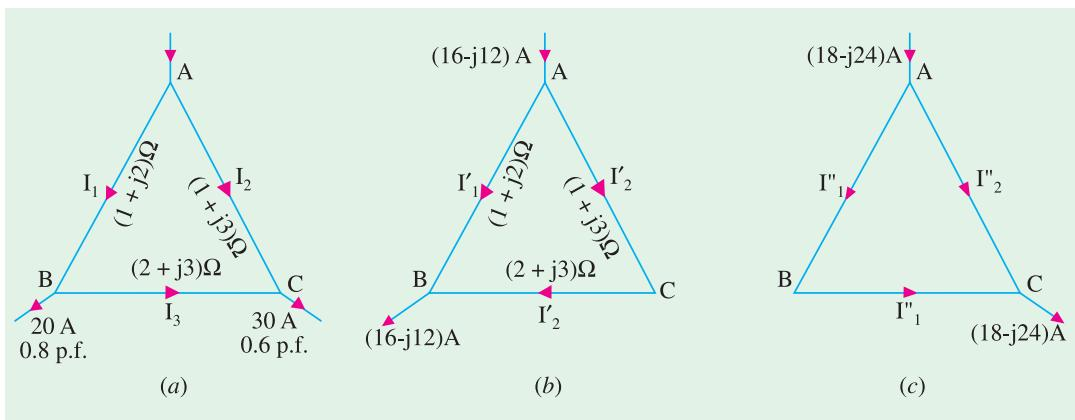

Fig. 41.56
**Solution.** The distributor circuit is shown in Fig. 41.56 (a). Currents in various sections are as shown. First, consider the load at point B acting alone as in Fig. 41.56 (b). The input current at point A divides in the inverse ratio of the impedances of the two paths AB and ACB.